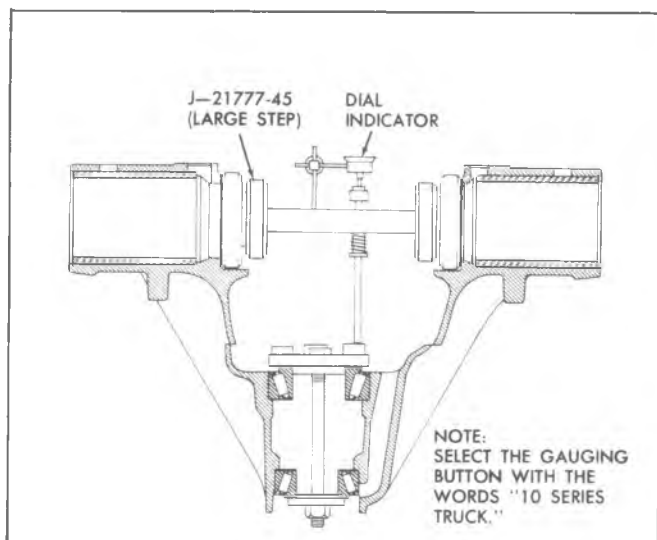

Fig. 20B--Gaging Tools Installed in Carrier - Truck
11. Rock the plunger rod slowly back and forth across the button until the dial indicator reads the greatest deflection. At this point, set the dial indicator to zero. Tools will now be positioned as shown in figure 20B.